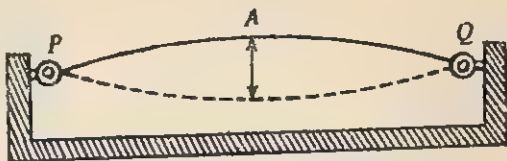

Fig. 5.12. Stretched string vibrating with fundamental mode.
**Vibration of strings.** Let us stretch a piece of a metal wire or a rope about one metre in length between two hooks or nails  $P$  and  $Q$  suitably fixed as shown in Fig. 5.12. The wire or rope is fixed tightly. Pluck the wire in the middle and observe that it vibrates as a whole such that a loop is formed. The amplitude of vibration of the wire is maximum at the centre and zero at the fixed ends.
The frequency of first overtone [Fig. 5.12(b)] is given by,